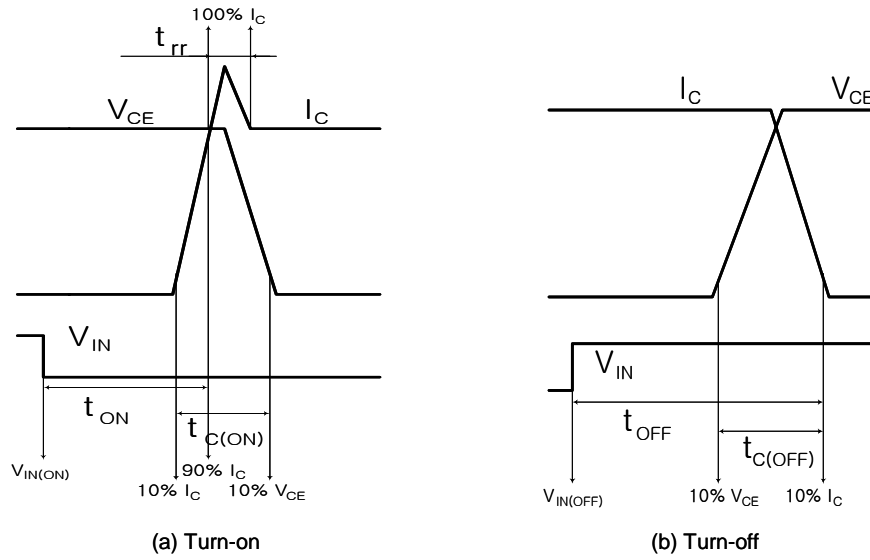

Fig. 4. Switching Time Definition
- $t_{ON}$  and  $t_{OFF}$  include the propagation delay time of the internal drive IC.  $t_{C(ON)}$  and  $t_{C(OFF)}$  are the switching time of IGBT itself under the given gate driving condition internally. For the detailed information, please see Fig. 4.